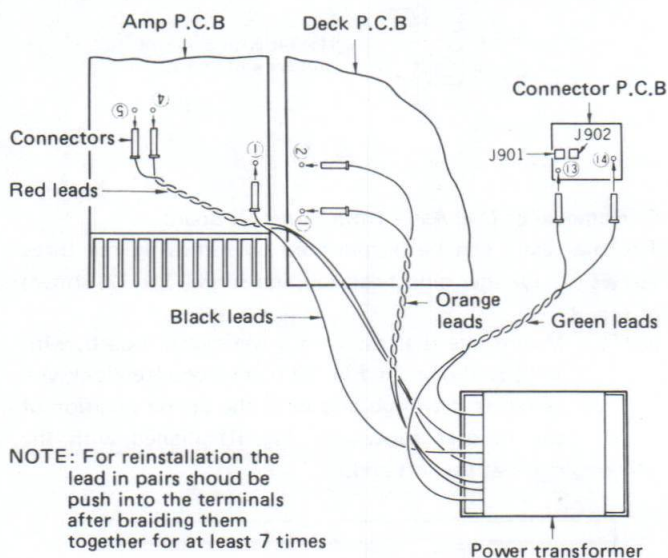

Fig. 2
- 1) Remove the 14 screws ① (black bind head tapping screw, 3 x 16).
- 2) Remove the screw ② (black bind head tapping screw, 3 x 16).
- 3) Unscrew the two screws ③ (black bind head, M3 x 8) and shake proof washer on the threaded section to the right.
- 4) Remove the screw ④ (black bind head tapping screw, 3 x 10).
- 5) Remove the four screws ⑤ (black bind head tapping screw, 4 x 10).
- 6) When the two screws ⑥ (black bind head tapping screw, 3 x 12) are removed, the power switch c. board and knob will come off.
- 7) Pull out the lead connectors from the transformer (Fig. 2) at 7 points.